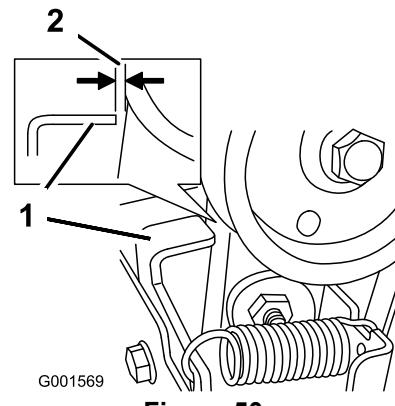

Figure 50
3. With the auger/impeller lever disengaged, ensure that the gap between the auger clutch assembly and the tab is 1/16 inch (1.5 mm) (Figure 50).